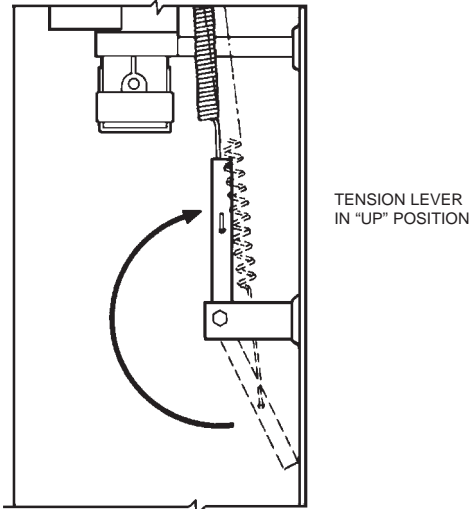

FIGURE 8-6
19. Raise tension lever to “UP” position. See Figure 8-6.